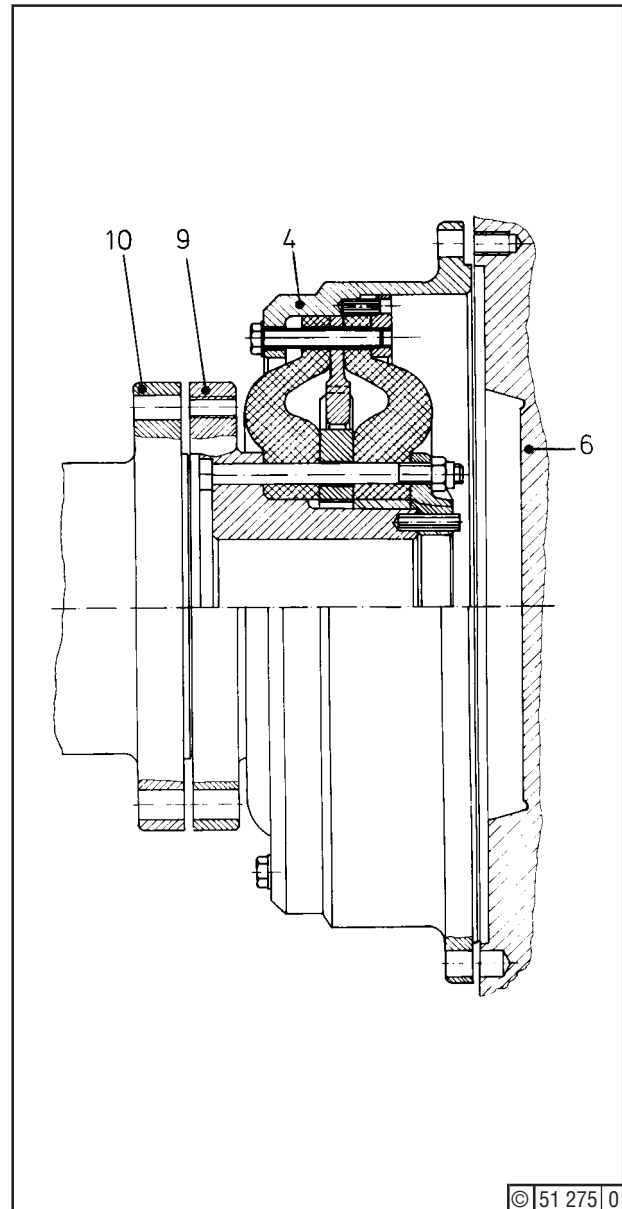

Fig. 2
Unscrew hex. bolts (7) and take off washers (14). Remove any dowel pins (8) and lockplates (13). Unscrew hex. bolts (11) and remove pin (12). Using puller bolts M 18x50 / M 20x50, press back jacket (4) - Fig.2 - from flywheel (6) until the locating seats of flywheel and hub come clear.
Finally, attach flange (9) - Fig. 2 - to hub (10) and secure external element fastenings.